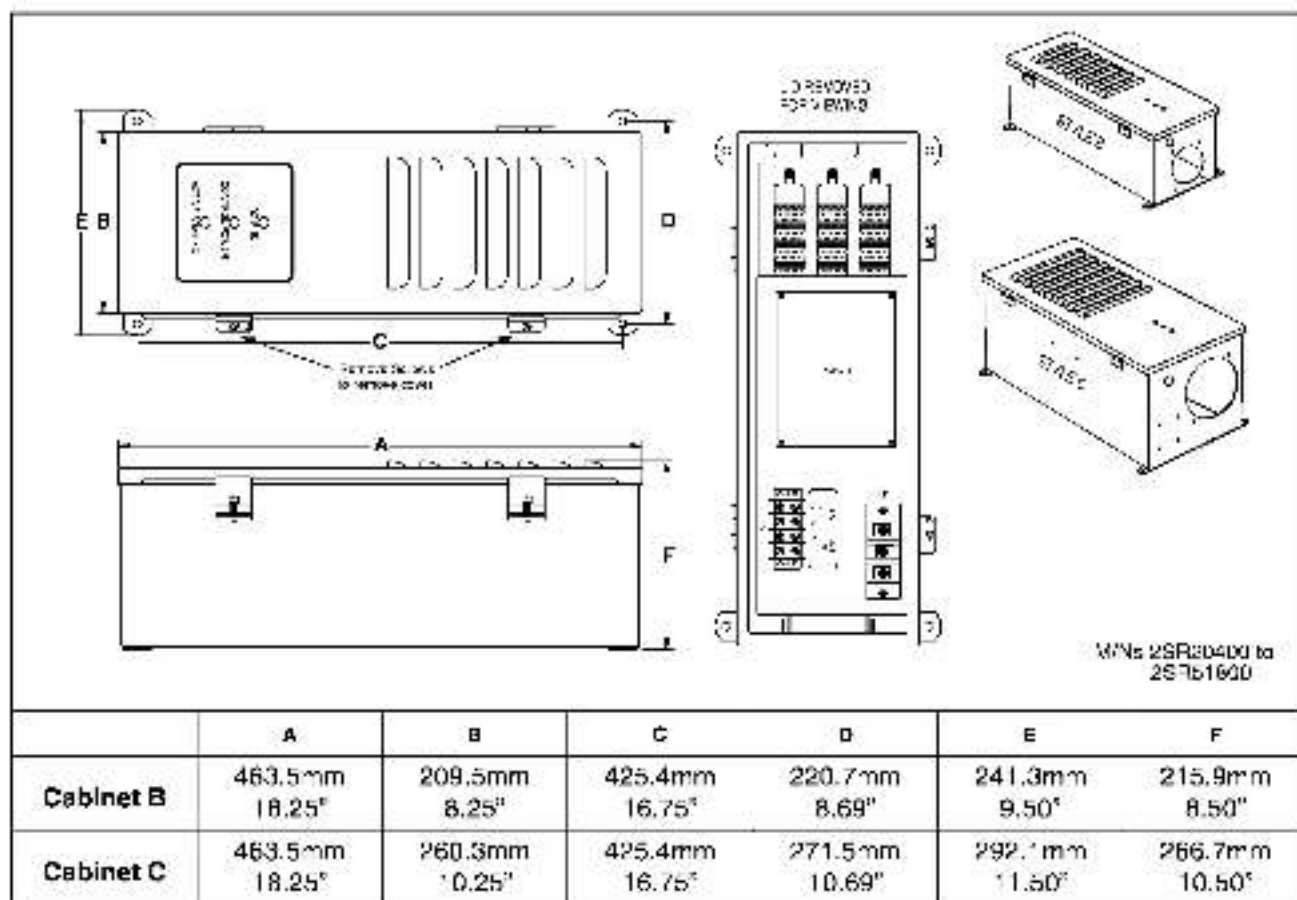

Figure 2 - Braking Unit Dimensions - Cabinets B and C (NEMA 1 Enclosure)
Braking units (M/N 2SRxxxxx and 2STxxxxx) have the following indicators, as shown in figures 2, 4, 5 and 6:
- Step 5. Mount the Braking Unit vertically with the fan at the bottom. Mounting hardware is not provided. See figure 2 for mounting dimensions.
- Step 6. Remove the cover from the Braking Unit by removing the two screws shown in figure 2.
- Step 5. Replace the fuse. Refer to figure 2 (styles B & C), 4 (style A), 5 (style E), or 6 (style F), for fuse location. The fuse is labeled "F1". Table 3 contains a list of the fuse part numbers.